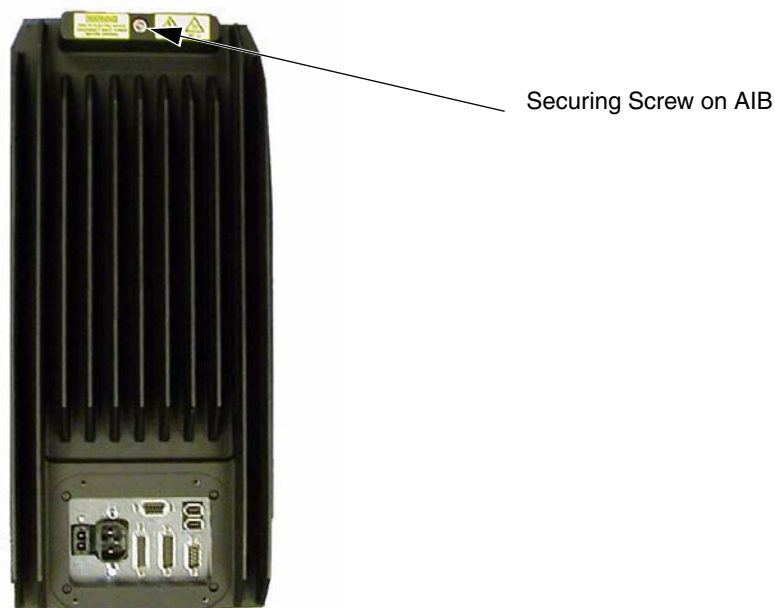

Figure 8-1. Securing Screw on AIB Chassis
10. Once the chassis is in place, use a 5 mm Allen key to tighten the chassis securing screw. See **Figure 8-1 on page 104**.